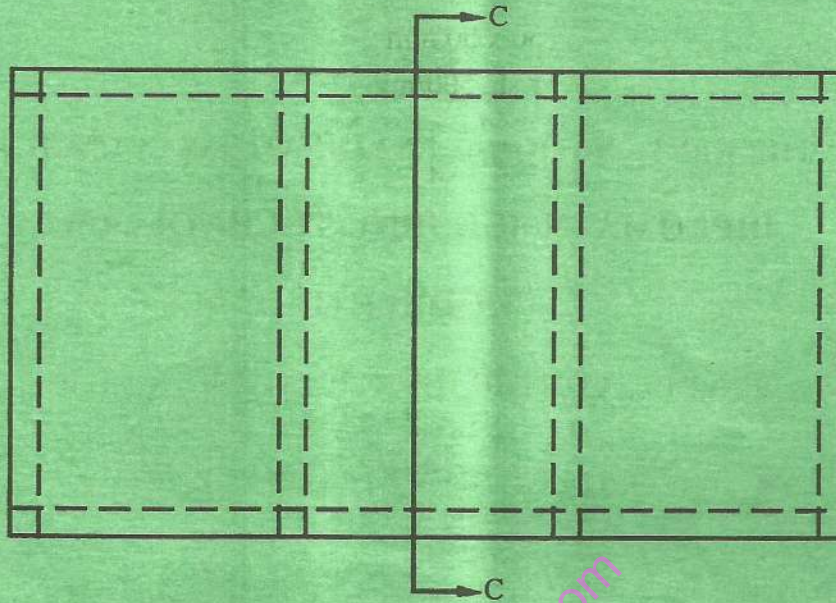

Fig. 1: Tongue and Grooved Timber Floor
- (b) **Figure 1** shows a tongue and grooved timber upper floor, sketch and label through section C-C. (5 marks)